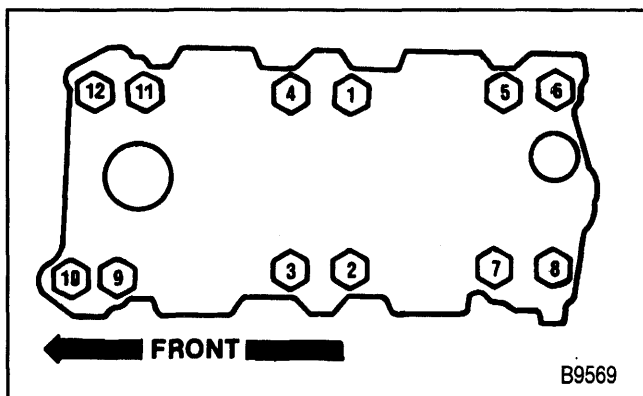

Figure 13—Intake Manifold Bolt Tightening Sequence
- Intake manifold bolts to 48 N.m (35 lbs. ft.) using the tightening sequence shown in figure 13.